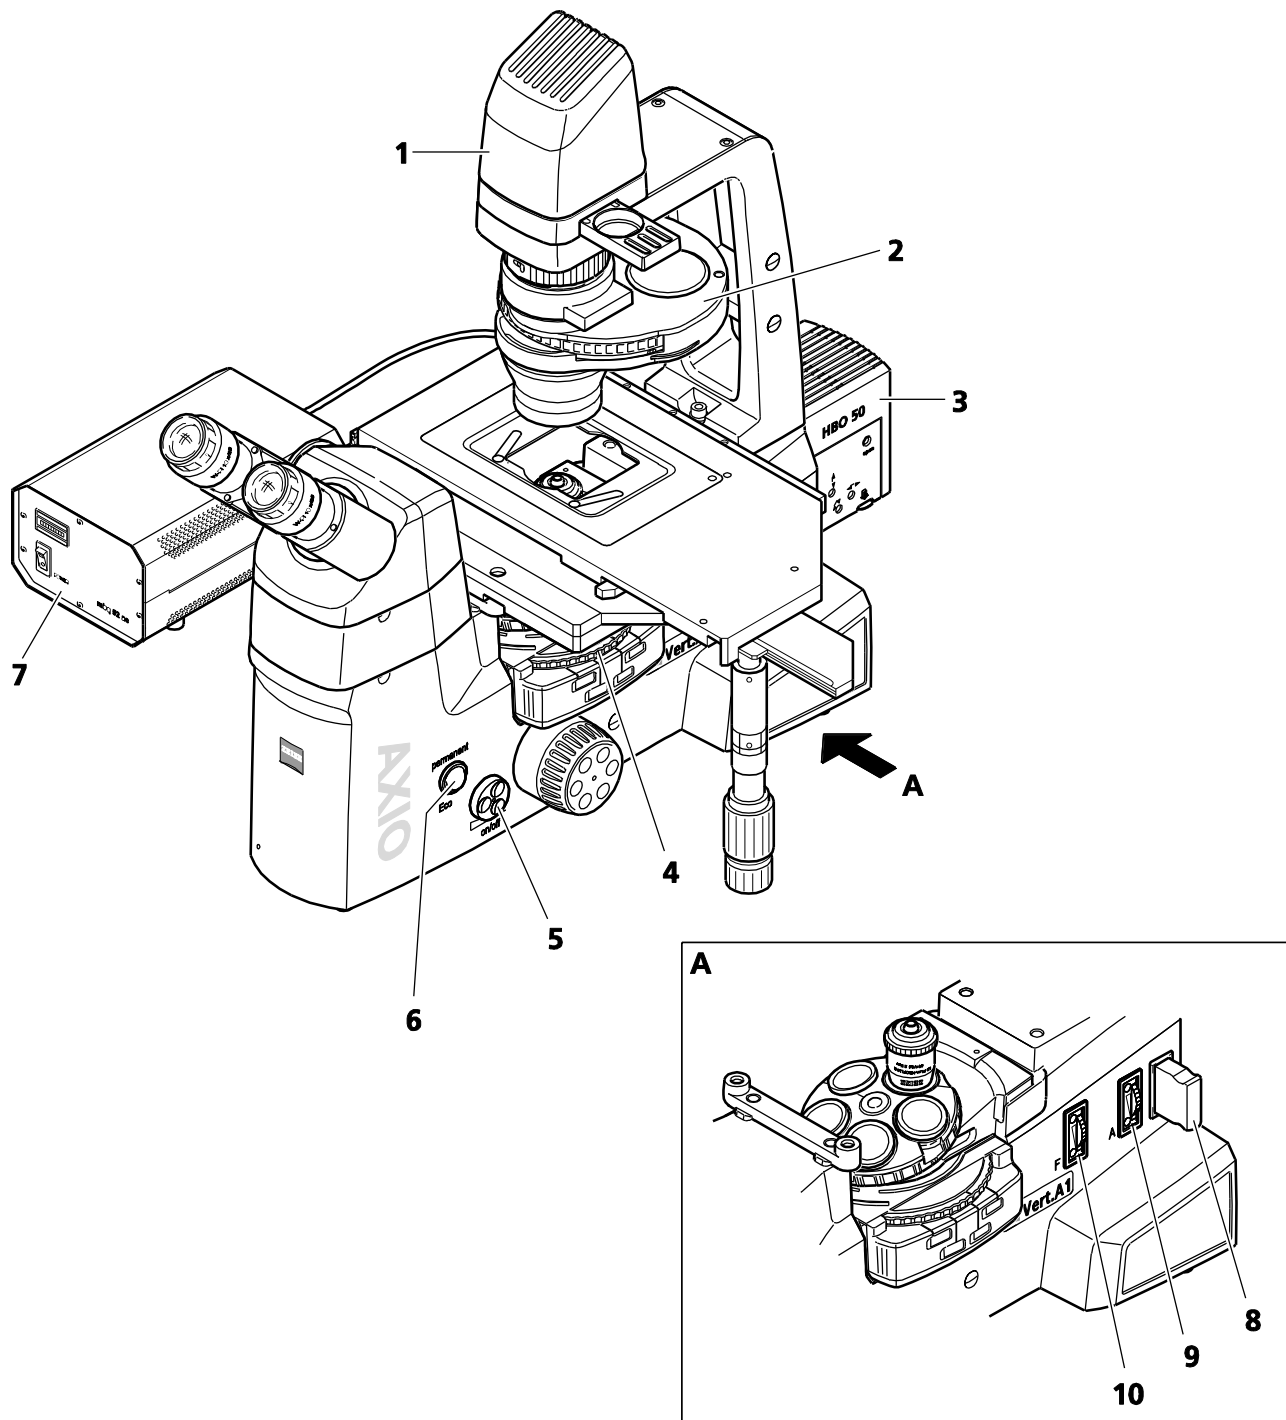

Fig. 4-18 Setting Fluorescence
- Select the area of the specimen in transmitted light bright field or phase contrast. To this end, switch the reflector turret (Fig. 4-18/4) to free passage and set the position for bright field or phase contrast on the condenser (Fig. 4-18/2).
- Use the power supply unit (Fig. 4-18/7) to turn on the fluorescence illumination, e.g., the HBO 50 illuminator (Fig. 4-18/3).
- Once you have selected the area of the specimen, use the **on/off** function (Fig. 4-18/5 and 6) to switch off the transmitted light illumination (Fig. 4-18/1).
- Using the reflector turret (Fig. 4-18/4), rotate in the desired filter set and unblock the light path with the reflected light shutter (Fig. 2-7/25).
- Close the luminous field diaphragm (Fig. 4-18/10) until it is visible in the image. Using the centering screws, move the diaphragm into the center position and open it all the way to the edge of the field of view.
- Additional excitation filters measuring 25 mm in diameter and held in position by O-rings can be inserted into the additional filter slider (Fig. 4-18/8).